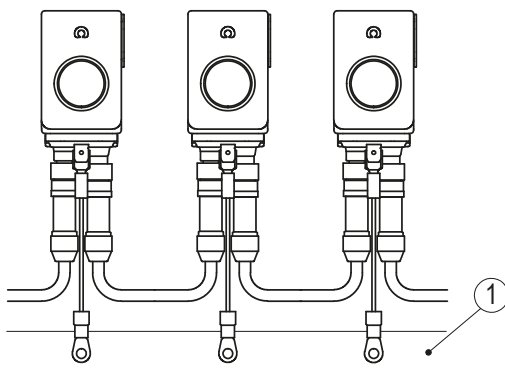

Fig. 7: Ground bar
For protection against interference, the screens of the signal lines and the power line must be connected on both sides. Potential differences cause inadmissible currents on the screen. Install the PE connection ③ onto the protective earth conductor potential between the plug connectors (see Fig. 6). Use 6.3 mm flat connectors with short strands 2.5 ... 4 mm² (not in the scope of delivery). For multiple position indicators we recommend connecting the earthing to a ground bar ① (see Fig. 7).